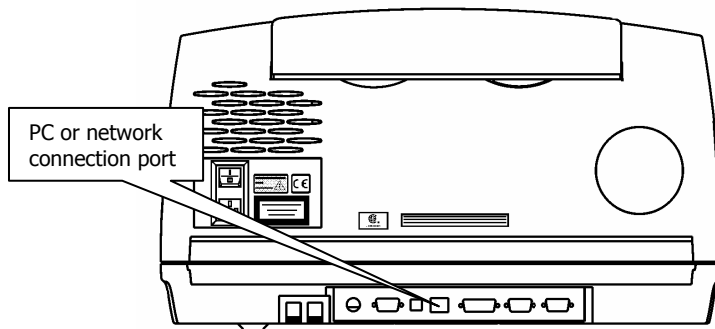

Figure 9 PC connection port
1. Plug one end of the cable into the connector port labeled  on the back of the instrument (Figure 9).